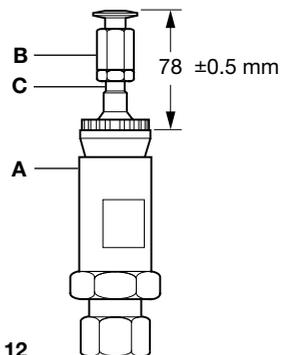

Fig. 12
For self-acting valves firstly attach the linkage kit EL3808 or EL3809 to the valve bonnet (A) as shown in Figure 12. Adjust the position of the valve linkage (B) to achieve a stand-out height of 78 ± 0.5 mm. Secure the valve linkage at this position by tightening the lock-nut (C).